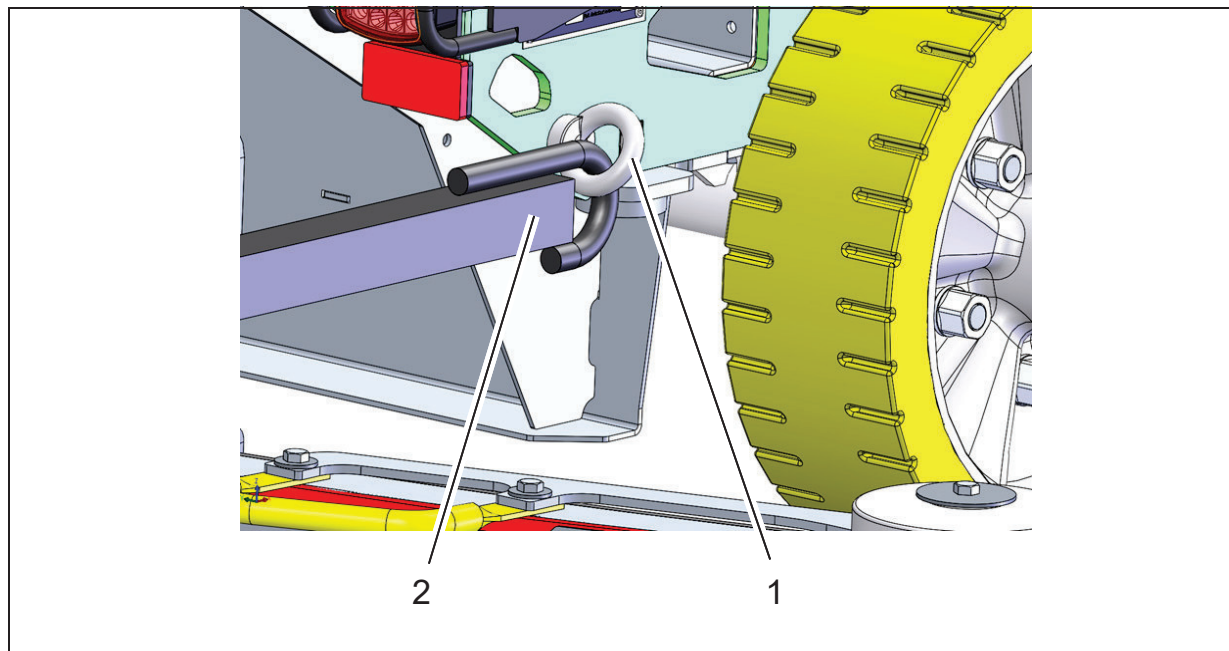

Fig. 5
1. Insert the eye bolt (Fig. 5/1) through the existing hole and secure with the M 12 nut.
2. Hook the tow bar into the eye bolt (Fig. 5/2).